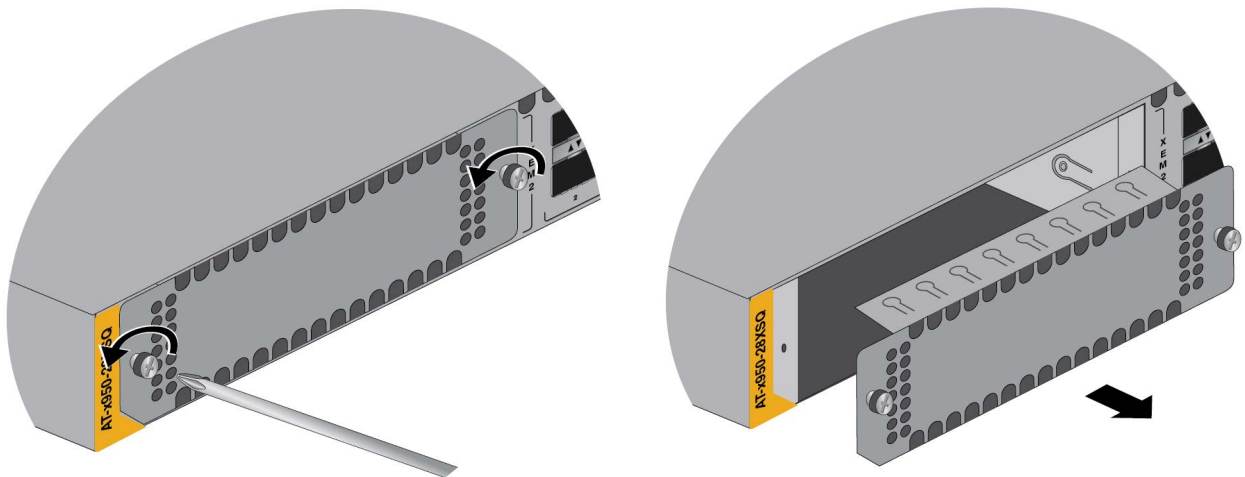

Figure 74. Removing the Blank Line Card Cover
1. Using a #2 Phillips-head screwdriver, loosen the two captive screws on the blank expansion slot panel and remove it from the switch. Refer to Figure 74.